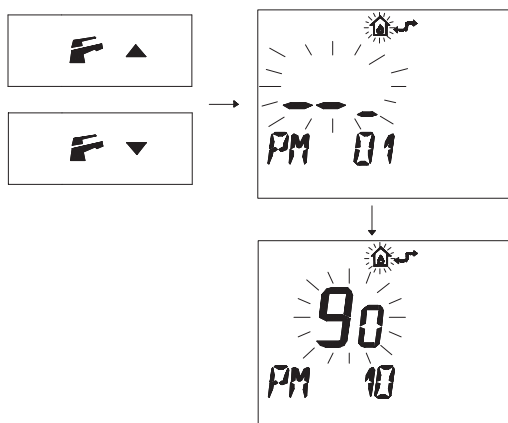

Fig. 7.38
- Press buttons or to display the "PM10" program for selecting the ignition frequency (Fig. 7.38).
In Fig. 7.38 a SET programmed at 90 is displayed corresponding to a re-ignition time of about 3 minutes.